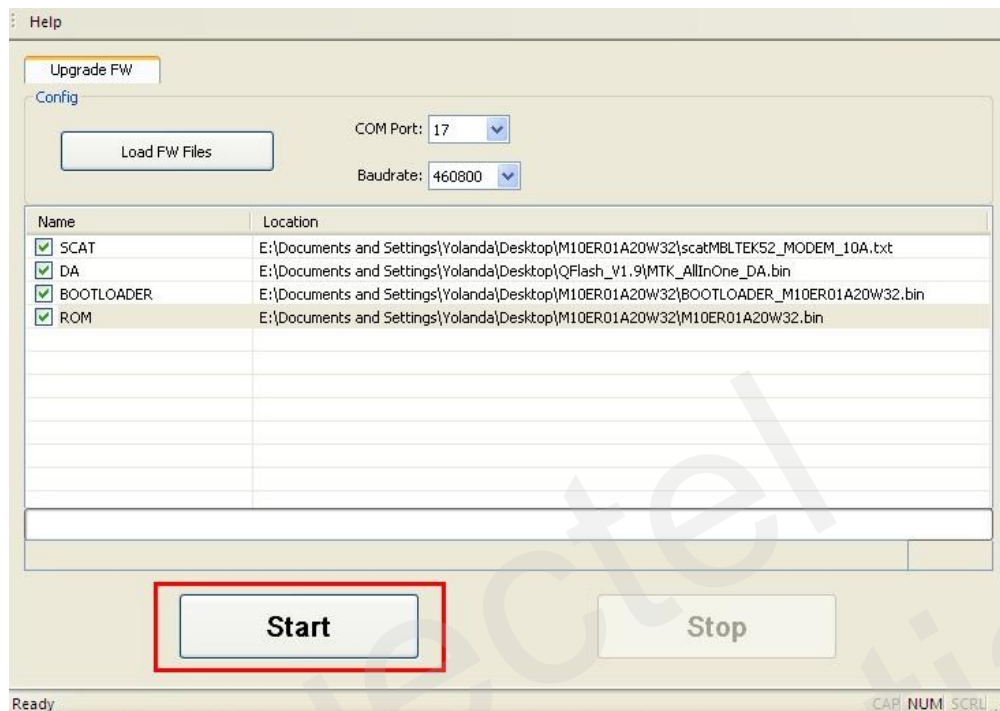

Figure 9: Click the Start Button
Step 1: Click the “**Start**” button to upgrade the firmware. Please refer to Figure 9.